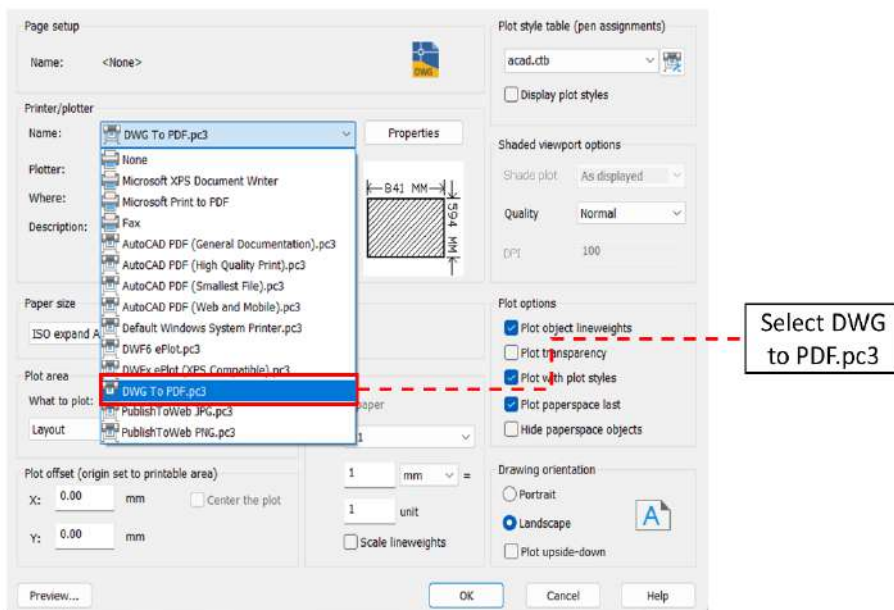

**Fig. 5.5:** Page setup manager
Step 3: Inside the Page Setup Manager dialog box, click the "Modify" button (refer to Fig. 5.5). This will bring up the Page Setup - Layout1 dialog box (see Fig. 5.6).